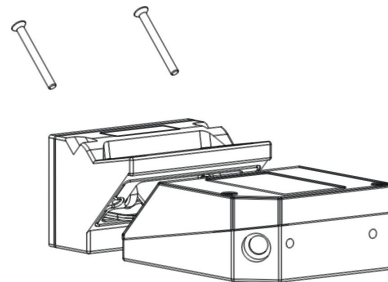

Figure 4
- 4) Check that the seal is correctly positioned and then after having aligned the OM2000N onto the scanner, fix it using the two screws supplied (see Figure 4).